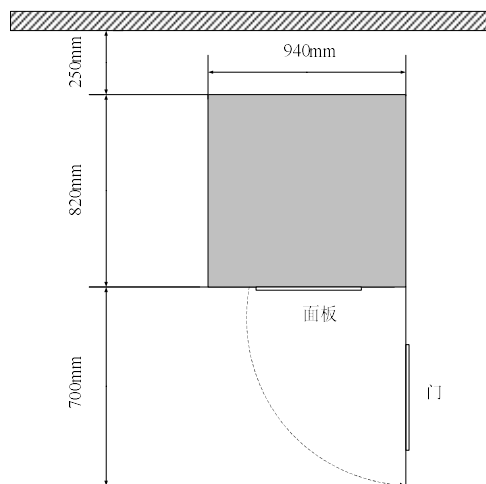

Fig. 3-2 Schematic diagram of bottom of fixing device
- 4) Where the equipment placed should give sufficient space to allow the heat which produced by the equipment to radiate. (see Fig. 3-2) At the same time, do not cover the air inlet of the front panel, for allowing heat to radiate;